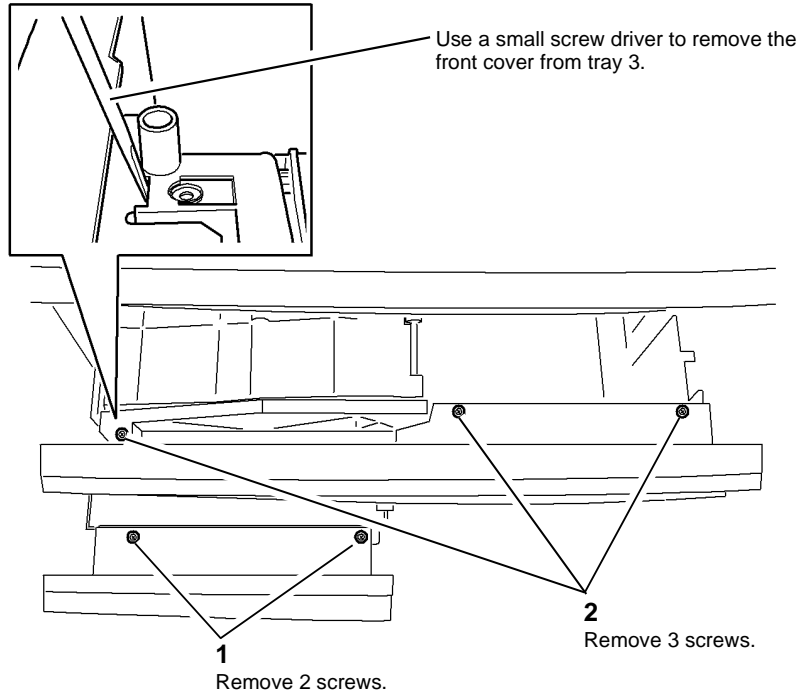

Figure 1 Front covers removal
1. Remove tray 3 and tray 4 front covers, Figure 1.